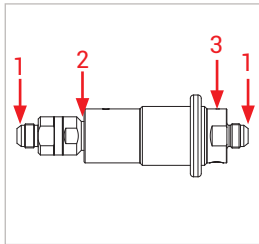
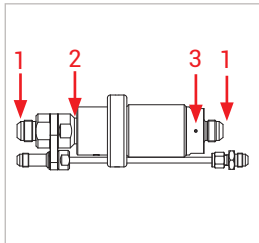

Figure 5
Figure 6
▶ Check the following measuring points (*Figure 5* and *Figure 6*)
- Fittings (1)
- Area of the clamping jaws (2)
- Area of the eccentric actuator (3)